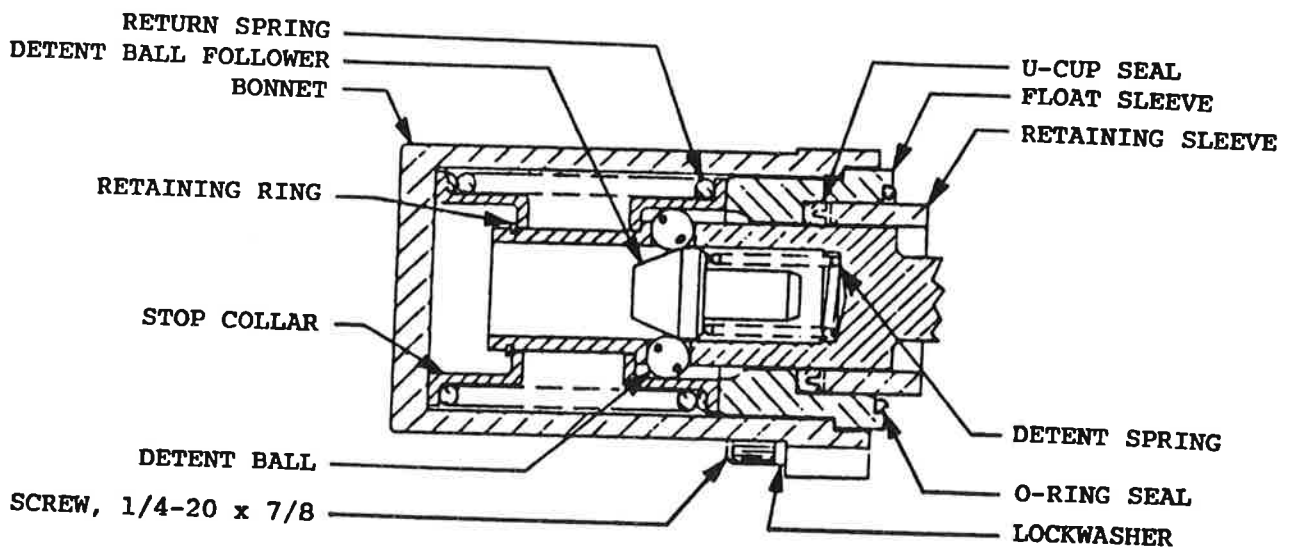

FIG 7
17. Paint on valve spool, sticking valve spool, or scored valve spool.	clean valve spool. Binding is usually caused from an over tightened plug, mounting bolt, fitting in valve body, or tie rod bolt. If a plug or fitting in valve body is leaking do not over tighten in an effort to stop leak. This will distort body casting and cause spools to bind. Instead, the plug or fitting should be removed from valve body and be reconnected, using a new O-ring. Do not apply excessive pressure on mounting bolts. The rods should be torqued to 20 ft-lb. Never force spool, if binding occurs, see item 31 at the end.
18. Oil leakage past spool seal into spool cap.	remove cap, if it contains oil, replace spool seal O-rings. Check O-ring retainer to see if it is flat. If it has been "belled" check for restriction from outlet to reservoir of valve which would cause excessive back pressure, see item 31 at the end and Fig 7.
19. Broken return springs.	replace springs, see item 31 at the end and Fig 7.
3. At the BACK of the valve remove all bonnet assembly parts which are connected to the spool, keep parts in the order of disassembly. See Fig 7 for the parts involved in the make-up of the bonnet assembly.
Replace retaining sleeve on valve spool. Lightly oil new U-cup seal. Slide U-cup seal over valve spool being careful to orient seal as shown in Fig 7. Install new o-ring seal in bonnet counter-bore.